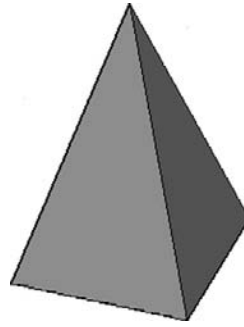

FIGURE 22.7
Step 4. Drag your mouse (or enter a value) and the pyramid shape is automatically extruded, as seen in Figure 22.7. Just like with the cone, you can vary the top radius of the shape.